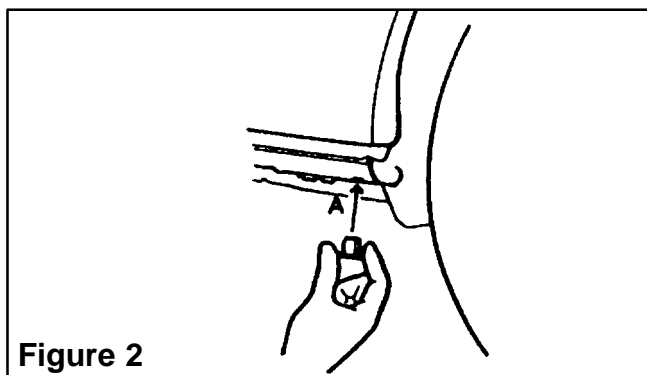

Figure 2
5. Keep the tape tightly wound as shown in figure 2. Tape speed can be affected by loosely wound tape.
2. Insert the round flanged grommet (supplied in the kit) into hole, at point A, at bottom of fender well (See Figure 2).